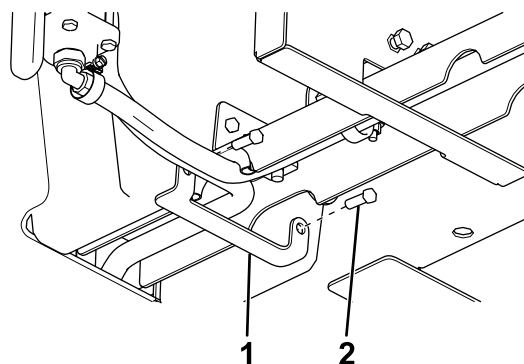

Figure 37
9. For the Forge spreaders, continue to step 11. For the VBX spreaders, secure the hose retainer to the spreader leg using 2 lag bolts (5/16 inch) as shown in Figure 37.